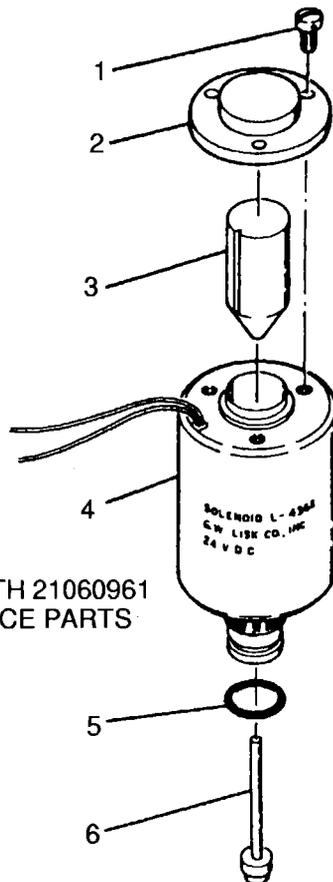

Figure 5-42A. Disassembly of Manifold Solenoid
5-269D. DISASSEMBLY. (Beginning with 21060961.) (Refer to Figure 5-42A.)
5-269F. ASSEMBLY. (Refer to figure 5-42A.)
Refer to figure 5-42A for breakdown of solenoids (9), (9A) and (9B).